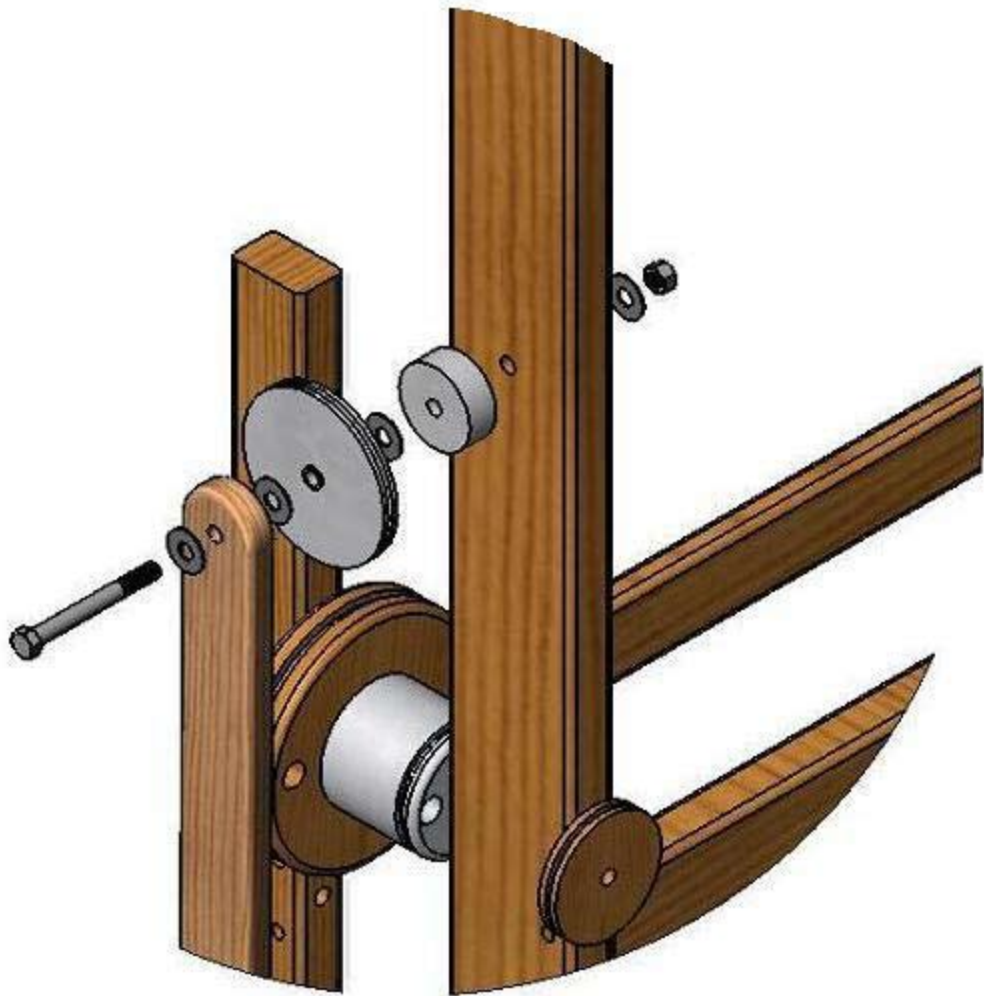
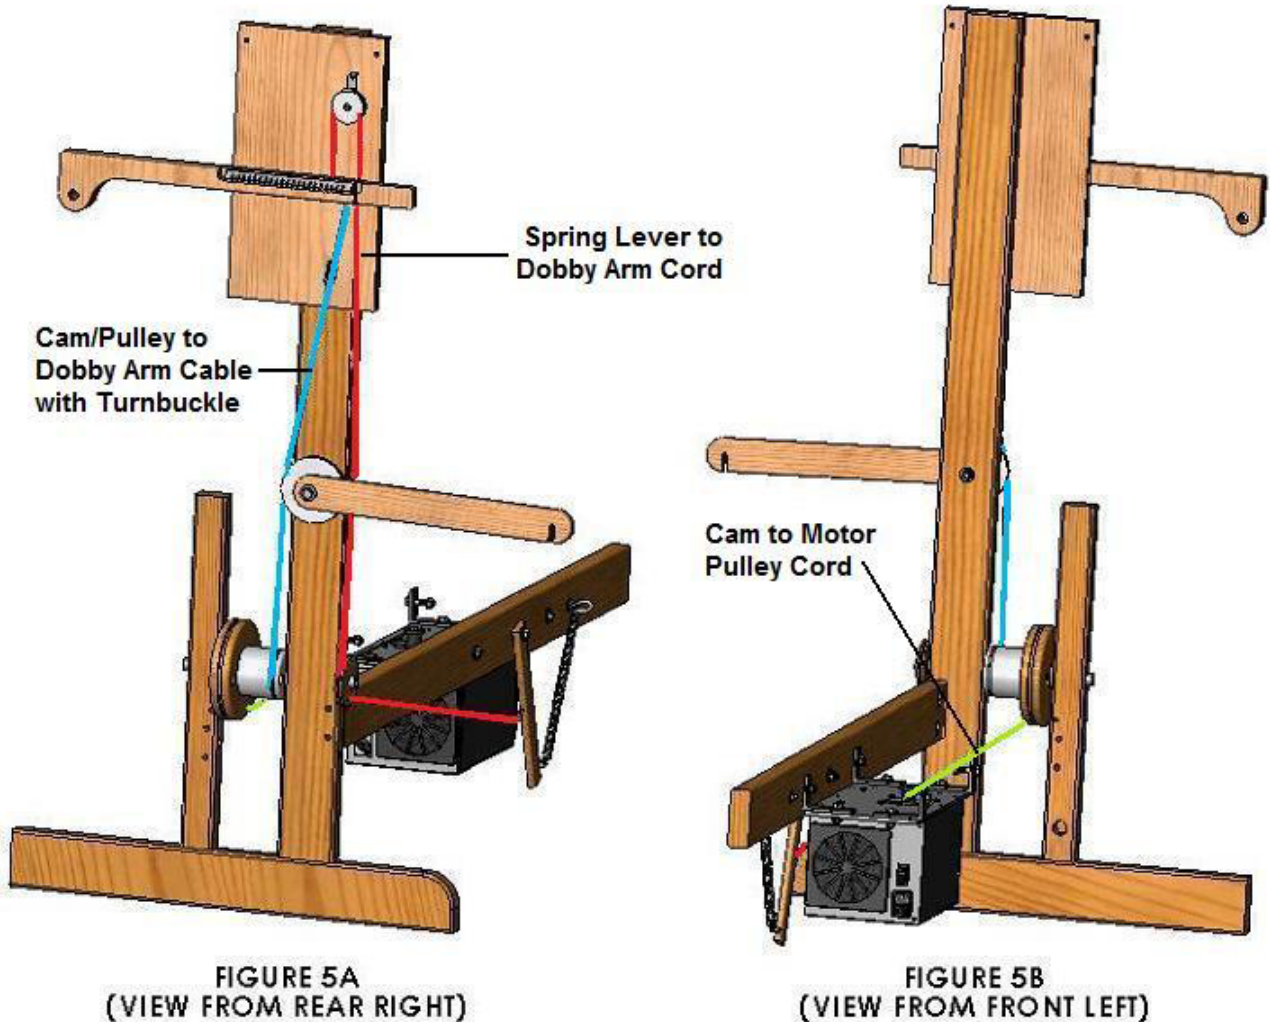

Figure 4 - Expanded 4" Guide Pulley Assembly
Figure 5 - Installed Cam-Pulley Assembly and Cable/Cord Routes
7) **Install the 4" Guide Pulley** (see Figure 4). For safety, remove the Cloth Storage, Separation, and Warp Beam(s); then remove the Right-Hand Support Arm, Spacer, and Bolt. Using the 3/8"—16 x 3-1/2" Hex Bolt provided, replace the Support Arm as follows:
- 4) **Attach the Cylinder/Turnbuckle Cable and Replace Cam-Pulley Axle** (see Figure 4). Attach the Turnbuckle/Cylinder Cable (shown in Blue, Figure 5) to the new Cylinder, using the retainer to hold the nico tip in place on the new Cylinder. Insert the Axle, from the left, through the Front Side Vertical Support (Castle) so the end extends slightly into the middle space between side-members and in this order (as seen in Figure 4), slide the other components onto the Axle. When completed, this Assembly will be as follows:
INSTALLING THE CORDS (see Figure 5)
- 5) **The Spring Lever/Dobby Arm Cord.** This Cord (shown in Red, Figure 5) has one open end and one with a loop, fastened with a nico. Insert the open end, from above, down through the center one of the three holes near the end of the Dobby Arm. Tie an overhand knot at the end of the cord. Route the Cord up and over the top of the Dobby.